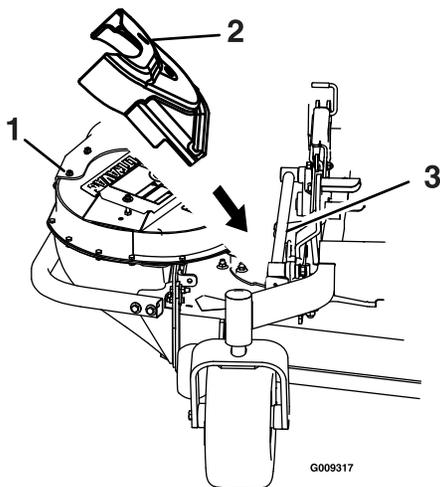

Figure 19
- 3. Position the belt cover at an angle and slide it under the mower frame (see Figure 19).